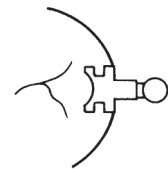

Fig. 9
2. Place the male on the paralleling mandrel, insert in the surveyor and position as described above. Wax the male into position, incorporating the curved retention plate in the wax so the flat stabilizing plate forms the interproximal wall (Fig. 9).